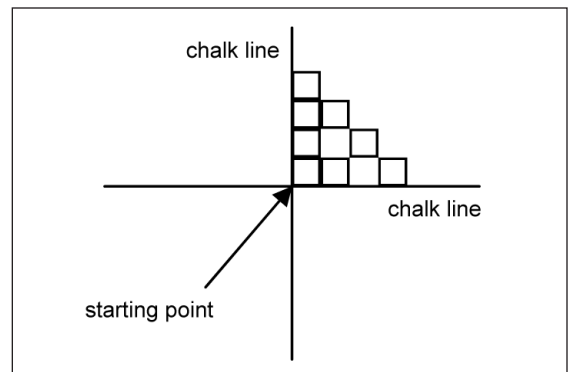

Figure 3: Pyramid Installation Method
- You will install modules using the pyramid technique. This allows for multiple alignment checks. If the edges do not align and the misalignment increases with progression of the installation, the source of the problem must be identified and corrected. (See Figure 3)